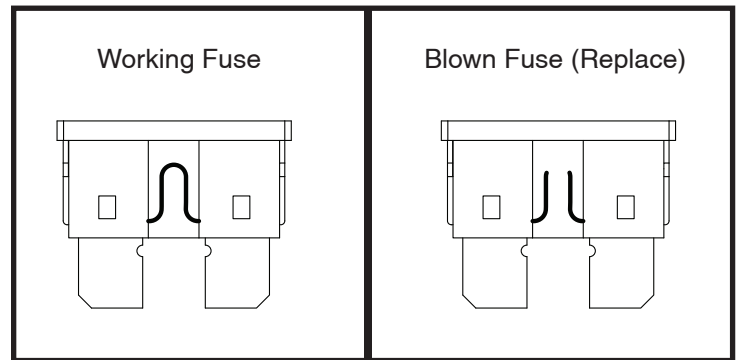

Figure 25. Fuse Replacement
2. Examine the fuse to be sure it is blown. See **figure 25**.